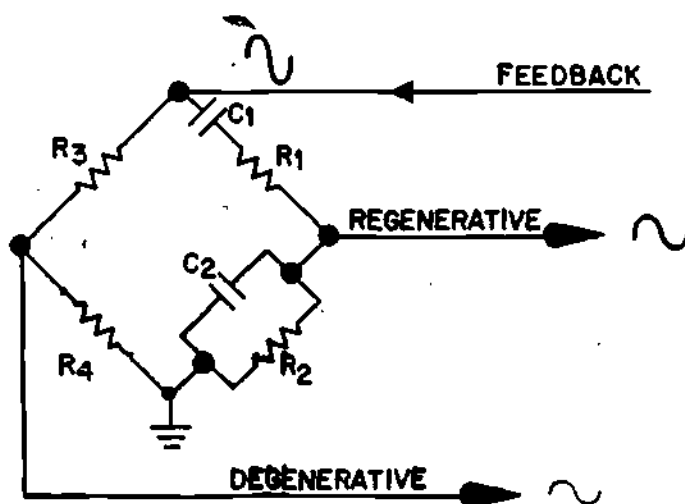

Figure 4
5. The schematic diagram shown in Figure 4 is that portion of the Wien-bridge oscillator circuit which determines the output frequency and also provides degenerative feedback to maintain a constant output amplitude.